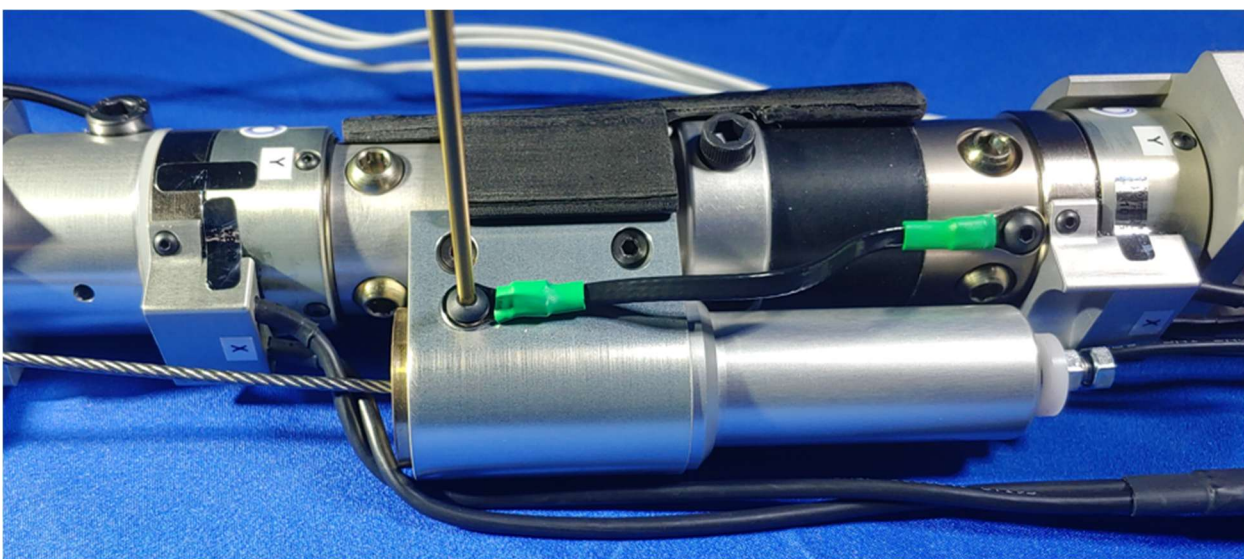

Figure 10-65. Install the tibia ground cable to the Lower Achilles Spring Housing (474-5504) and Tibia Compliant Element Assembly (474-5508)
10.3.30 Install the tibia ground cable to the Lower Achilles Spring Housing (474-5504) and Tibia Compliant Element Assembly (474-5508) using two M4 X 0.7 X 6 LG. BHCS (Figure 10-65).